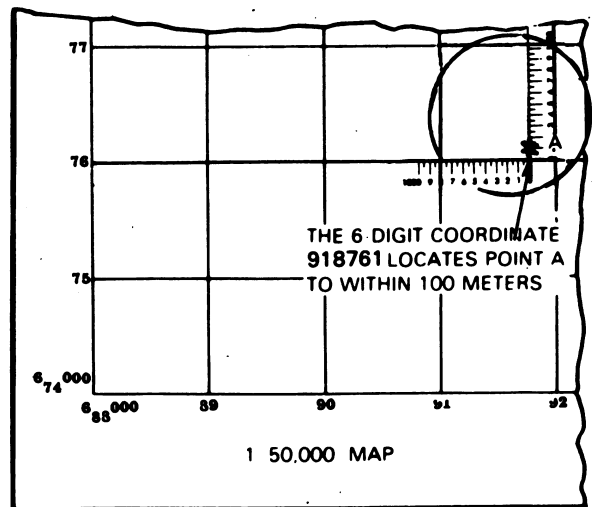

Figure 2
6. Slide the coordinate scale to the right keeping the bottom of the scale on the bottom grid line until point A is located under the vertical (right-hand) scale. (See fig. 2.)